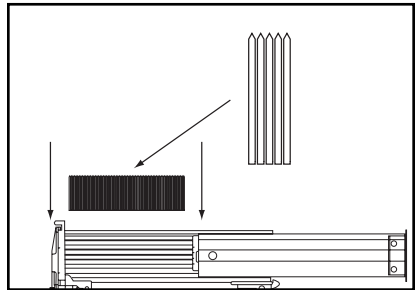

Figure 3. Loading staples into stapler.
4. Point the stapler up and insert a stick of staples into the magazine as shown in **Figure 3**. Make sure that the pointed ends of the staples point in the same direction as the stapler nose piece.